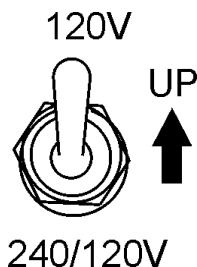

Figure 16. Full Power Switch (Up)
9. **Place the *full power switch*** (Figure 16) in the "**120V**" (Up) position.